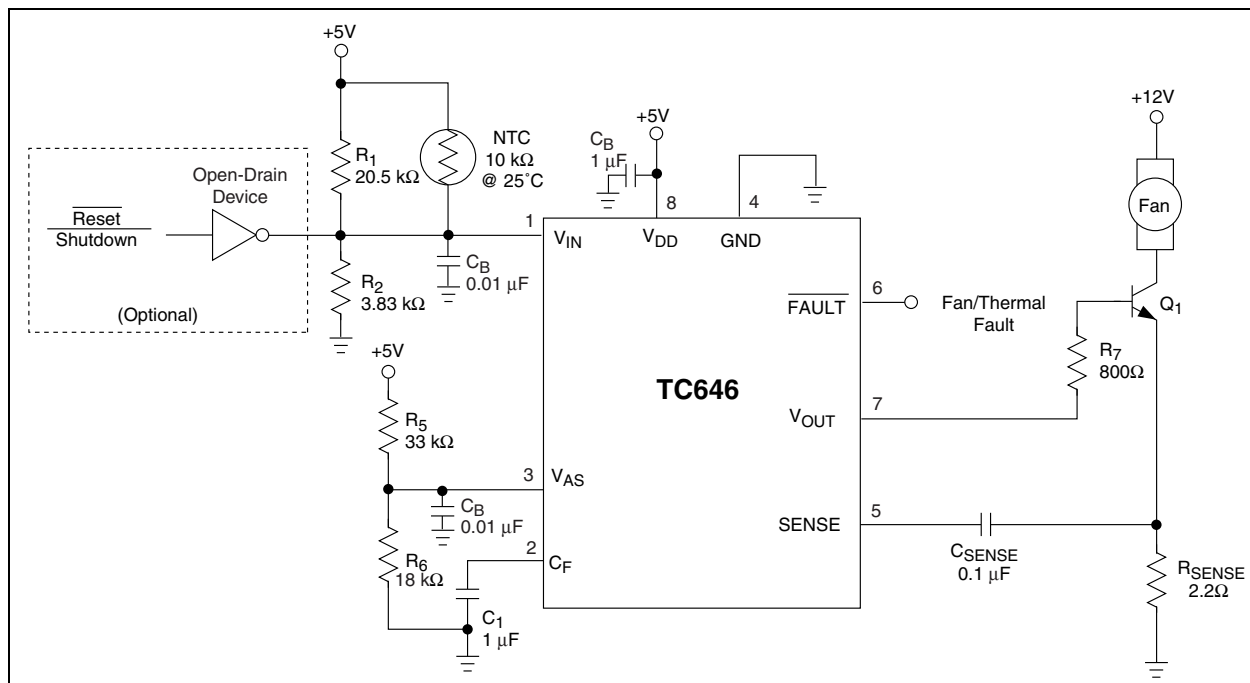

FIGURE 5-9: Design Example.
Step 1. Calculate R_1 and R_2 based on using an NTC having a resistance of 10 k Ω at T_{MIN} (25°C) and 4.65 k Ω at T_{MAX} (45°C) (See Figure 5-9).